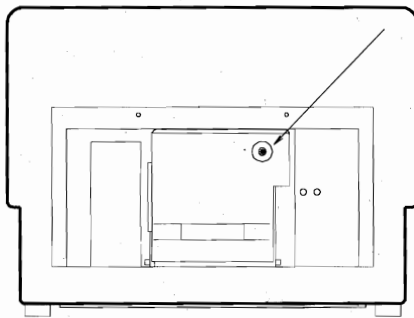

Fig. 6.3
- Undo the Philips screws through the circular opening in the upper right corner of the now visible lamp housing, see fig. 6.3.